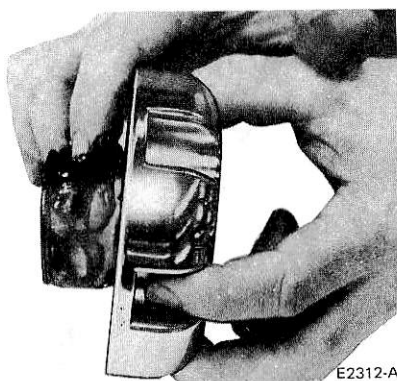

FIG. 20 Grease Application
6. Turn actuator knob to **lock** position. Apply a small amount of MOLY XL hi-speed grease to both grooves of the cam as shown (Fig. 20).